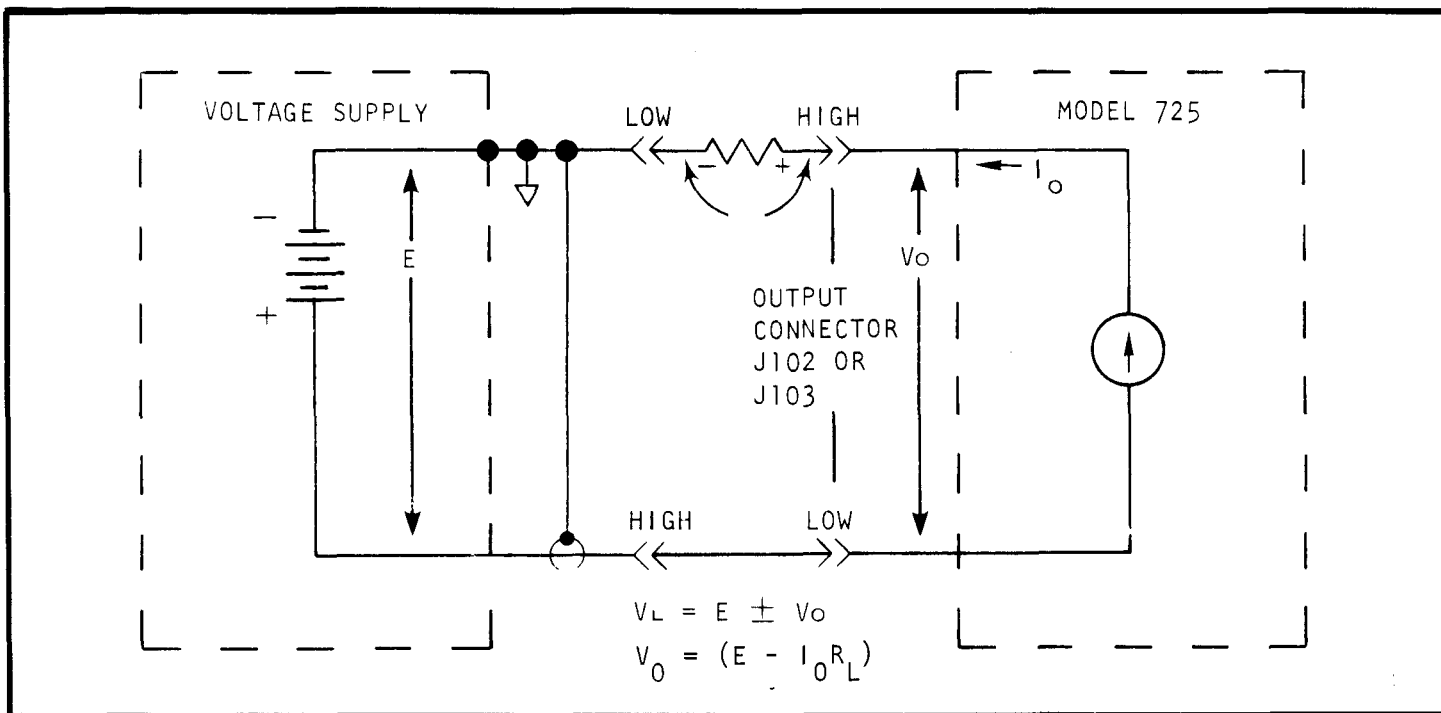

FIGURE 2-6. Floating Supply.
g. Floating Operation. The instrument can be floated up to  $\pm 100$  volts off of chassis ground with less than 20ppm of full range change in output current per volt on the 100nA range and less than 10ppm per volt on the other ranges. For floating operation, the shorting link must be removed. The outer shell of both OUTPUT connectors is always at chassis ground for safety when floating the instrument. A 5 $\mu$ F filter capacitor (C217) is connected between the LOW and chassis GROUND binding posts to minimize line frequency pickup. The LOW to GROUND isolation is approximately  $10^7$  ohms. A typical example of floating operation is shown in Figure 2-6. In this example, the Model 725 can be used with a voltage supply such as the Keithley Model 240A to extend the maximum useable compliance voltage to +200 volts (+100 + floating voltage). In this case the Model 725 can be adjusted for a compliance voltage of +100  $\pm$ 100 volts dc. The maximum current is 10 milliamperes (for the Model 240A).
2. Current Sink. The instrument can be used as a current sink as shown in Figure 2-6. In this case, the polarity of the current is such that current is flowing into the Model 725. The output voltage  $V_0 = E - I_0 R_L$ , where  $I_0$  is the programmed current,  $R_L$  is the load resistance.